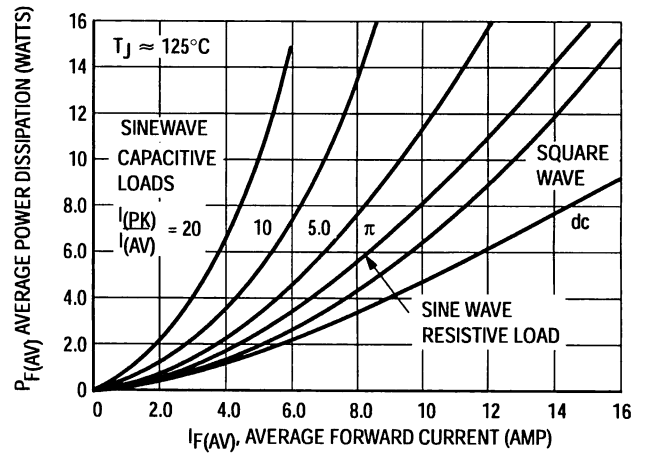

Figure 4. Forward Power Dissipation
Step 3. Find P_{F(AV)} from Figure 4. **Read P_{F(AV)} = 10 W